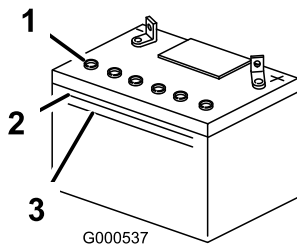

Figure 49
3. Look at the side of the battery. The electrolyte must be up to the **upper** line (Figure 49). Do not allow the electrolyte to fall below the lower line (Figure 49).
5. Remove the vent caps from the battery (Figure 49).
6. Slowly pour distilled water into each battery cell until the electrolyte level is up to the Upper line (Figure 49) on the battery case.
7. Wait 5 to 10 minutes after filling the battery cells. Add distilled water, if necessary, until the electrolyte level is up to the Upper line (Figure 49) on the battery case.